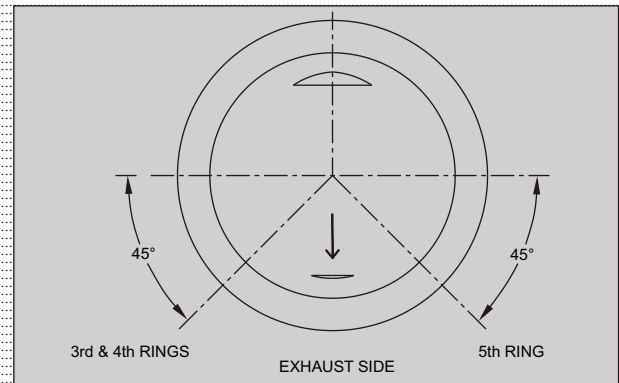

Fig. 3.167
- Assemble separator oil ring, locating its end gap towards exhaust side of the piston at 45 degree to the left from the center. (Fig. 3.167)
- Assemble oil ring (bottom) locating its end gap towards exhaust side of the piston at 45 degree to the right from the center. (Fig. 3.167)
- Assemble oil ring (top) locating its end gap towards exhaust side of the piston at 45 degree to the left from the center. (Fig. 3.167)